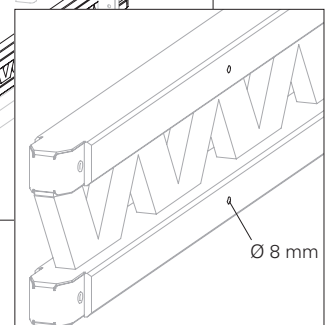

Fig. C2.02a
2. Pre-drill the platform beams, in this case, GT 24 (**75**), with  $\varnothing 8$  mm holes according to the drilling plan. (Fig. C2.02a)